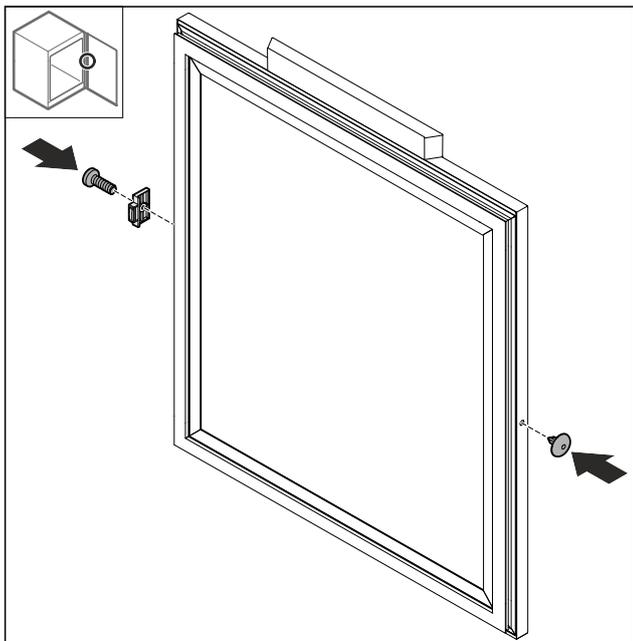

Fig. 74
- ▶ Turn the door stopper Fig. 74 (1) 180° and fit it on the opposite side.
- ▶ Insert the cover Fig. 74 (2) on the opposite side.